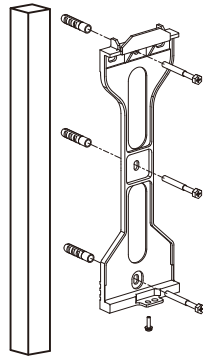

Figure 4.5 Inverter pillar mounting
Please see Figure 4.4 and Figure 4.5 for instruction on mounting the inverter.. The inverter shall be mounted vertically. The steps to mount the inverter are listed below.
2. Make sure the bracket is horizontal and the mounting holes (in Figure 4.4 and Figure 4.5) are marked correctly. Drill the holes into the wall or pillar at your marks.